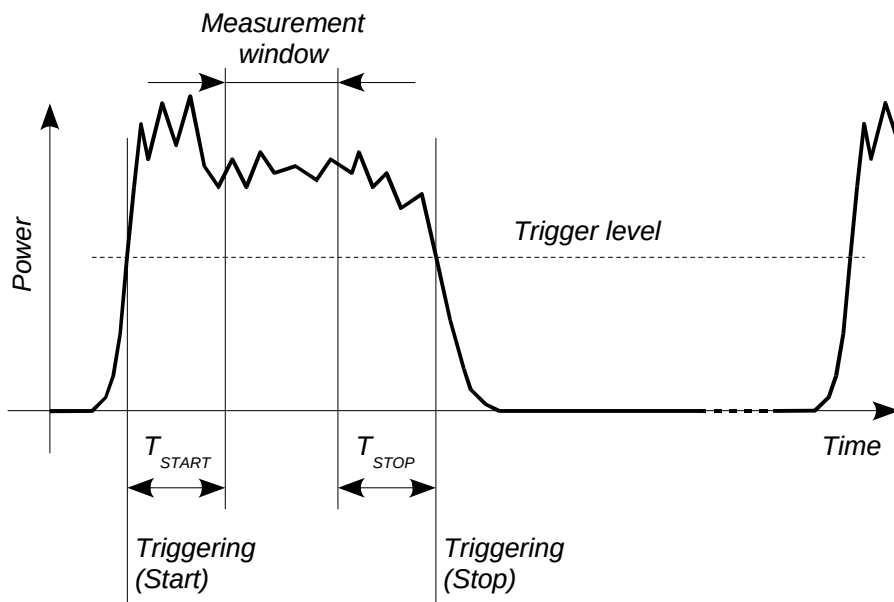
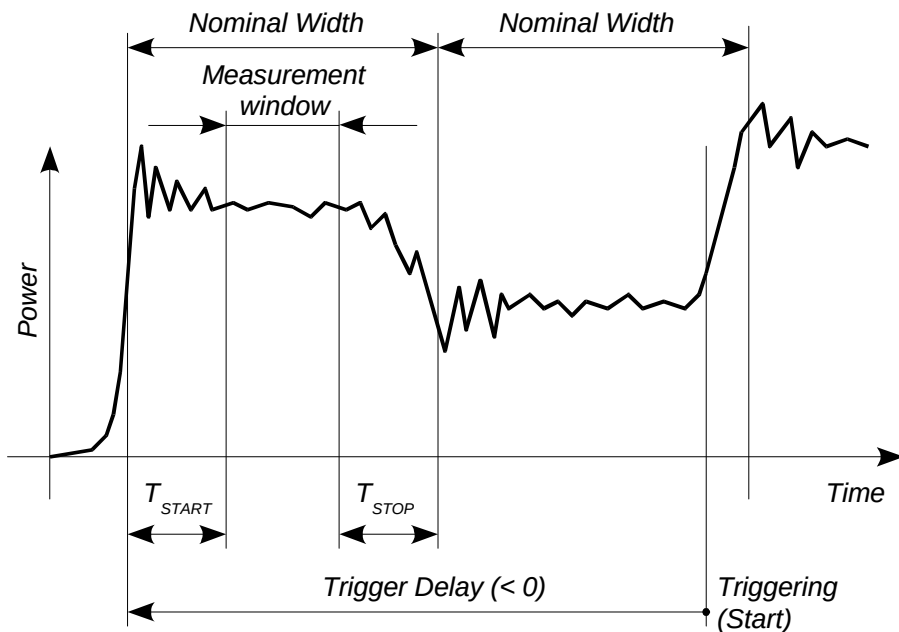

Fig. 6-2 Effect of *SENSe:TIMing:EXCLude:START* and *:END* in the *Burst Average* mode
Fig. 6-3 Effect of *SENSe:TIMing:EXCLude:START* and *:END* in the *Timeslot* mode
*SENSe:TIMing:EXCLude:START* defines the exclusion time at the beginning of the measurement window in the *Burst Average* (Fig. 6-2) and *Timeslot* (Fig. 6-3) modes.
*SENSe:TIMing:EXCLude:STOP* defines the exclusion time at the end of the measurement window in the *Burst Average* (Fig. 6-2) and *Timeslot* (Fig. 6-3) modes.